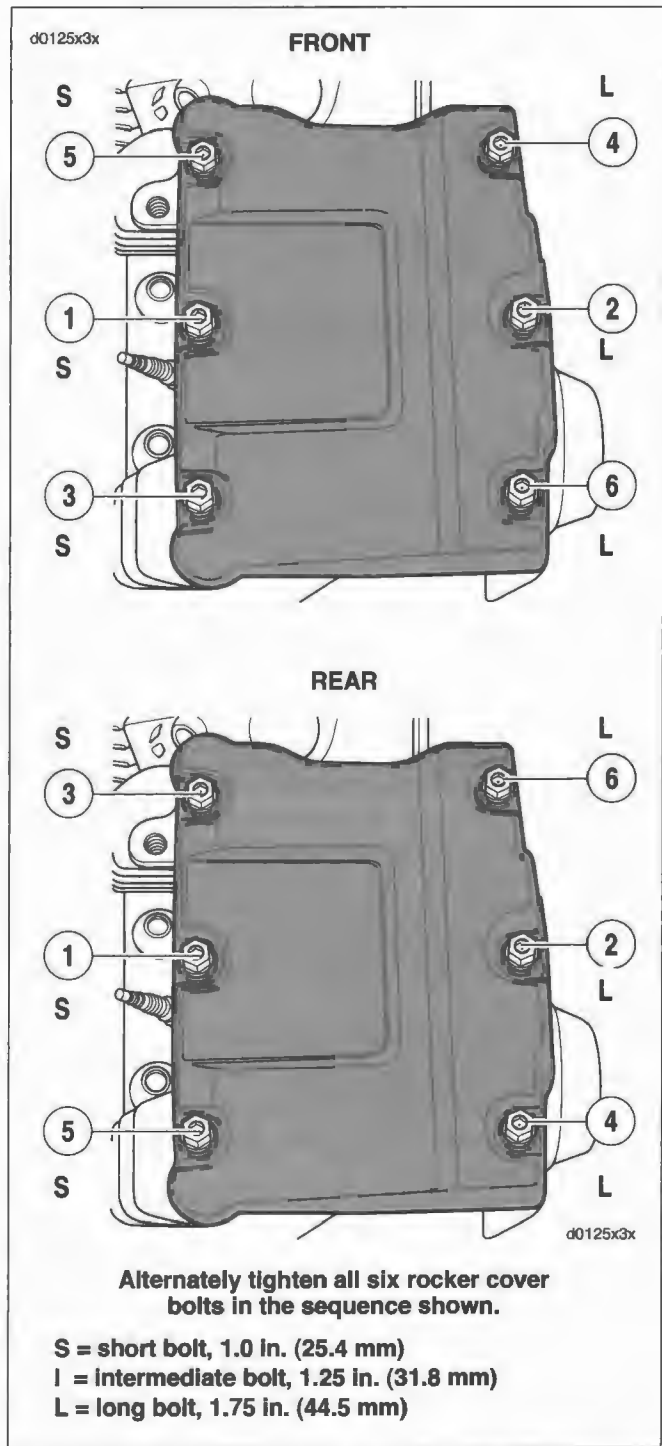

Figure 3-48. Rocker Cover Bolts Torque Sequence
3. See Figure 3-48. Install rocker cover bolts.